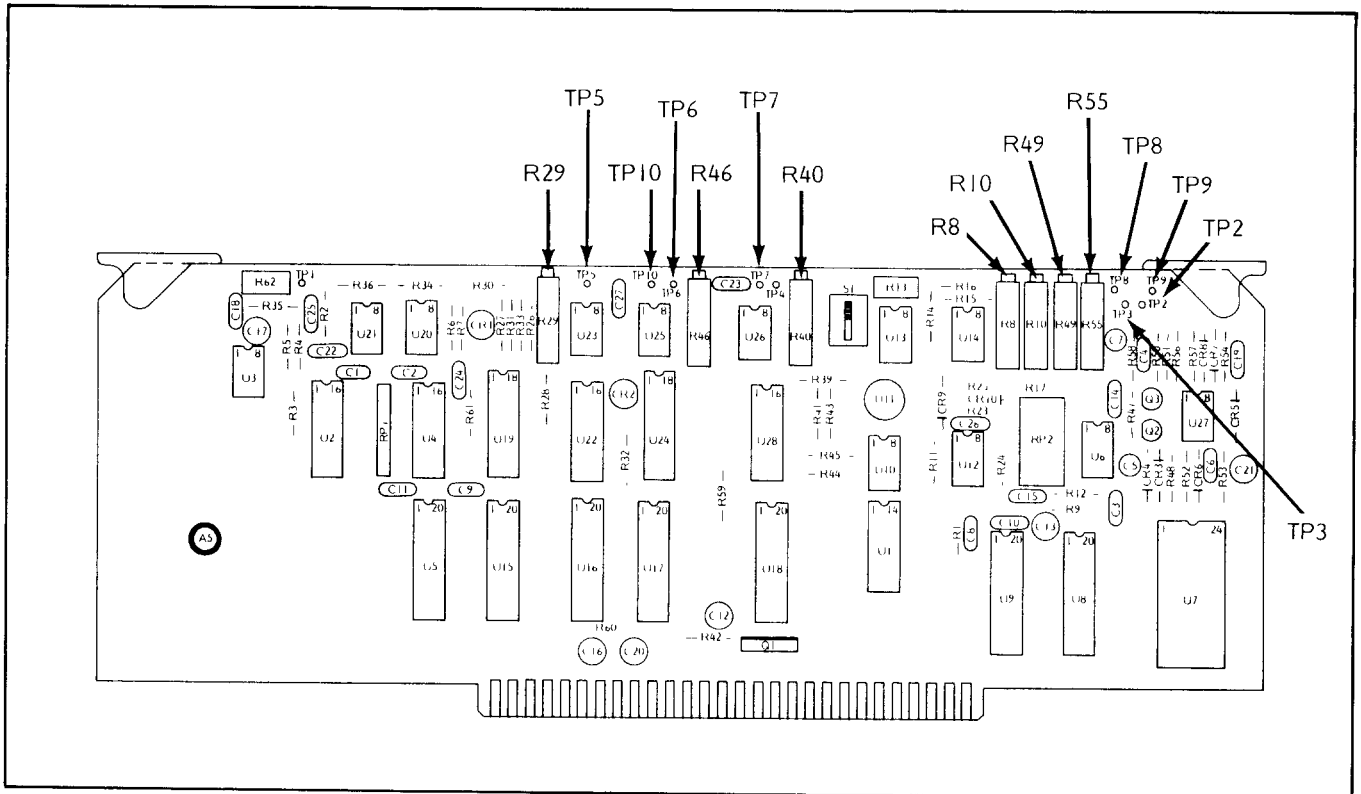

Figure 5-10. A5 Frequency Instruction Adjustments
3. Connect the common lead on the digital multimeter (DMM) to A5TP3 (Figure 5-10) and the test lead to A5TP9.